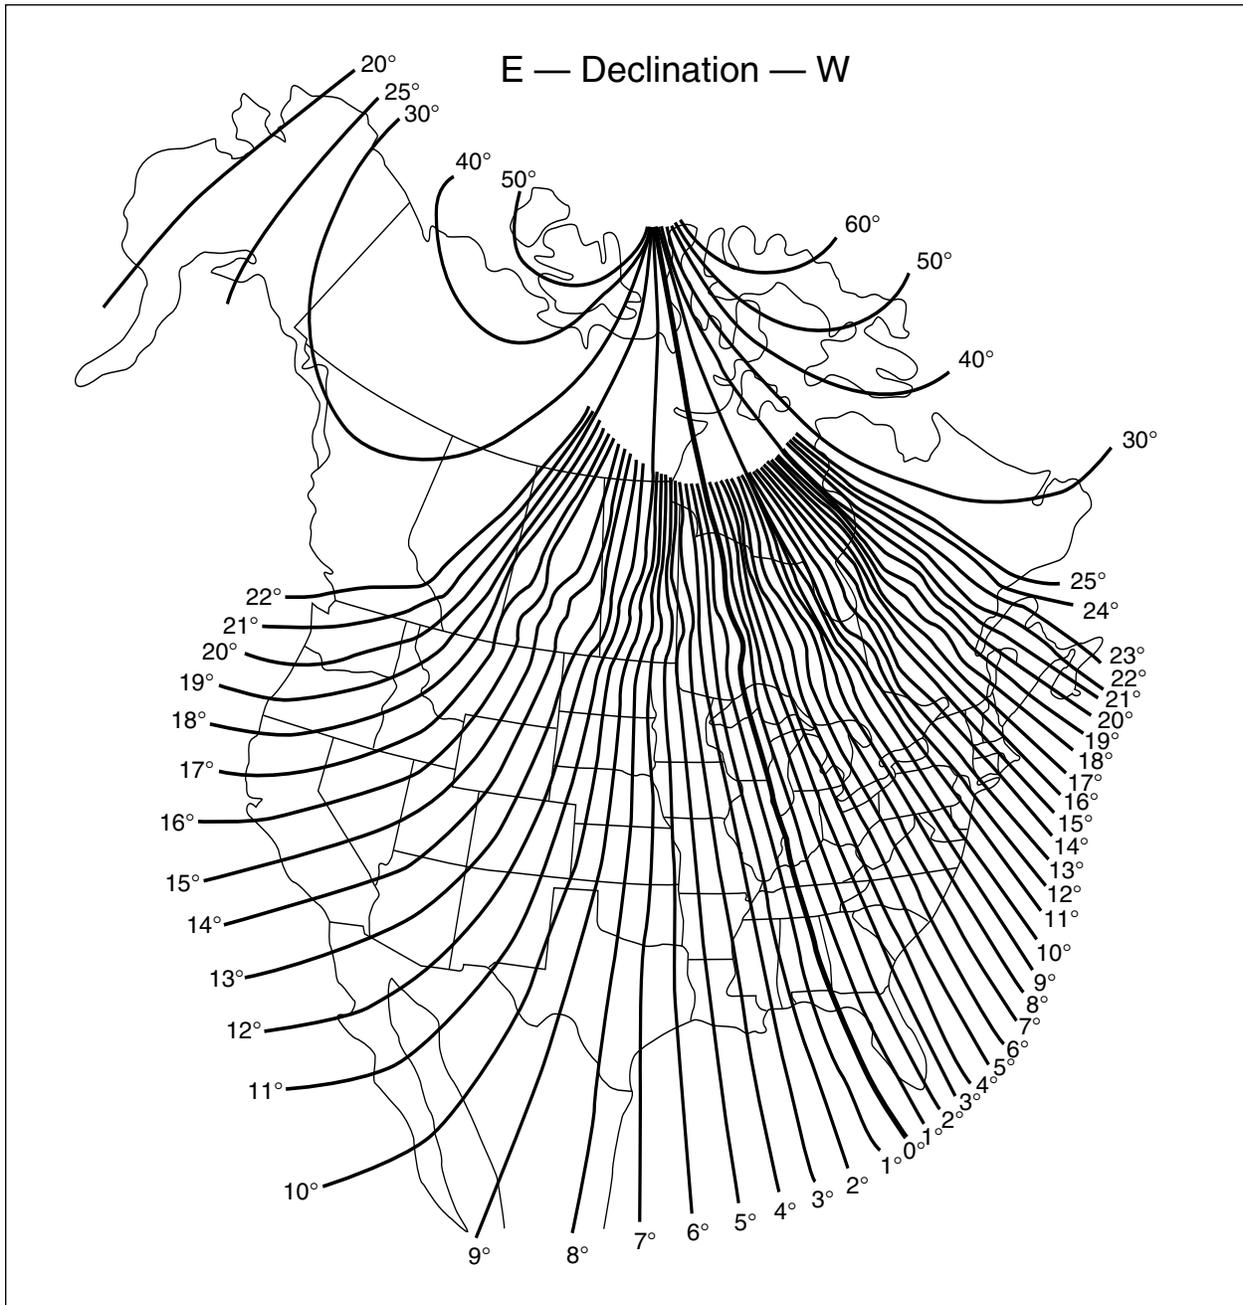

Fig. 5: Magnetic Declination Map.
- Determine the Magnetic Declination in the observing area by utilizing the Magnetic Declination Map (Fig. 5).